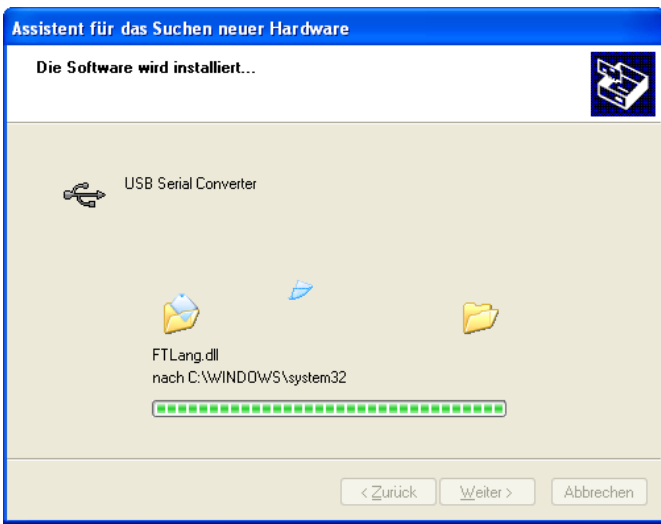

Figure 10.4
- The screenshot in figure 10.4 shows Windows XP copying the required driver files.